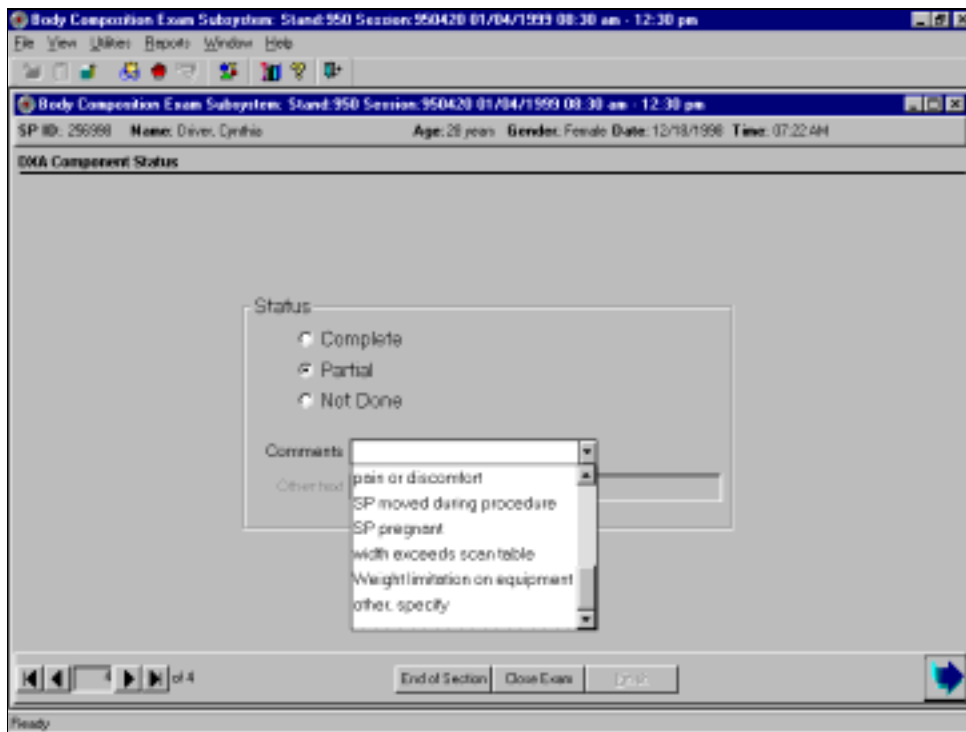

Figure 4-34. DEXA component status (3)
- If a comment is not selected when the status is 'Partial' or 'Not Done,' a message will be displayed: 'Please select comments.' See Figure 4-34.